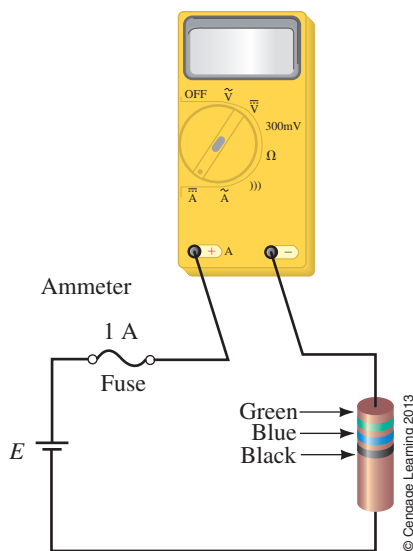

FIGURE 4-33
12. For the circuit of Figure 4-33,
13. For the circuit of Figure 4-33, if the resistor is replaced with one with red, red, black color bands, at what voltage do you expect the fuse to blow?